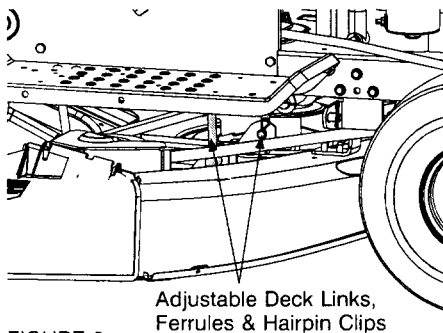

FIGURE 8
- Remove the hairpin clip from the ferrule found at the bottom of the front, left deck link (hairpin clip is on the inside of the lift link). See Figure 8.